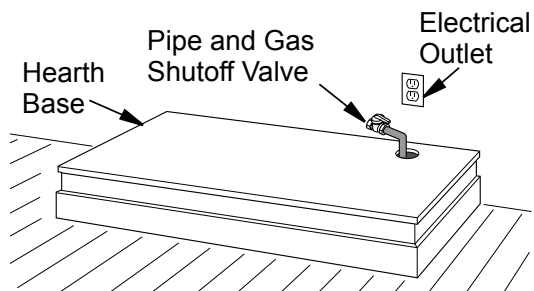

Figure 12 - Placing Hearth Base Against Wall
2. If blower is installed, install a properly grounded, 120 volt three-prong electrical outlet at fireplace location if an outlet is not there. If possible, locate outlet so cabinet mantel will cover it when installed (see **Figure 12**).
3. Place hearth base against wall at installation location. Cut an access hole in hearth base to run gas line to fireplace (see **Figure 12**). Make sure to locate access hole so cabinet mantel will cover it when installed.